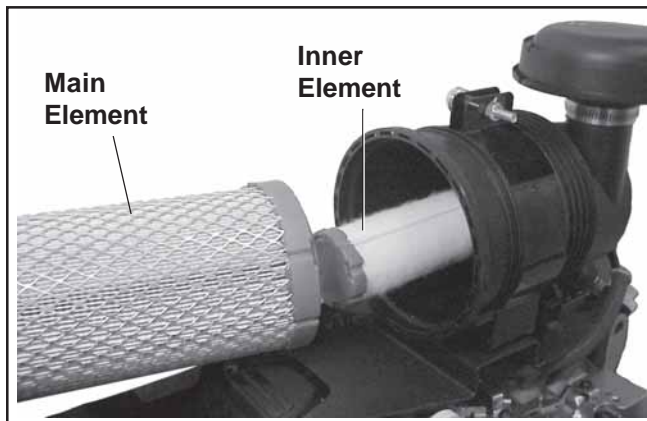

Figure 14. Removing Elements.
- Pull the air cleaner element out of the housing. See Figure 14.